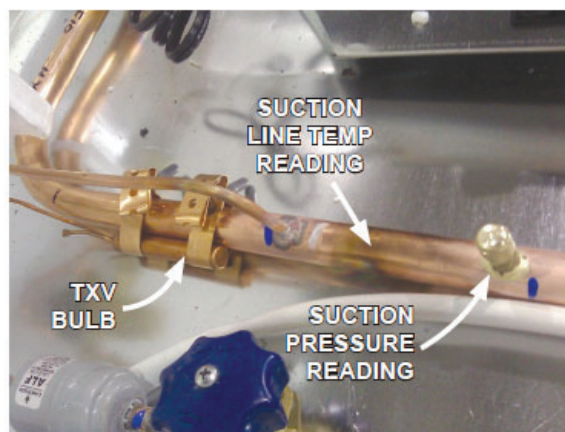

Fig. 12 Obtain pressure and temperature readings
1. Obtain suction pressure from access port; obtain suction line temperature from area near TXV bulb at the outlet of evaporator coil (Fig. 12).